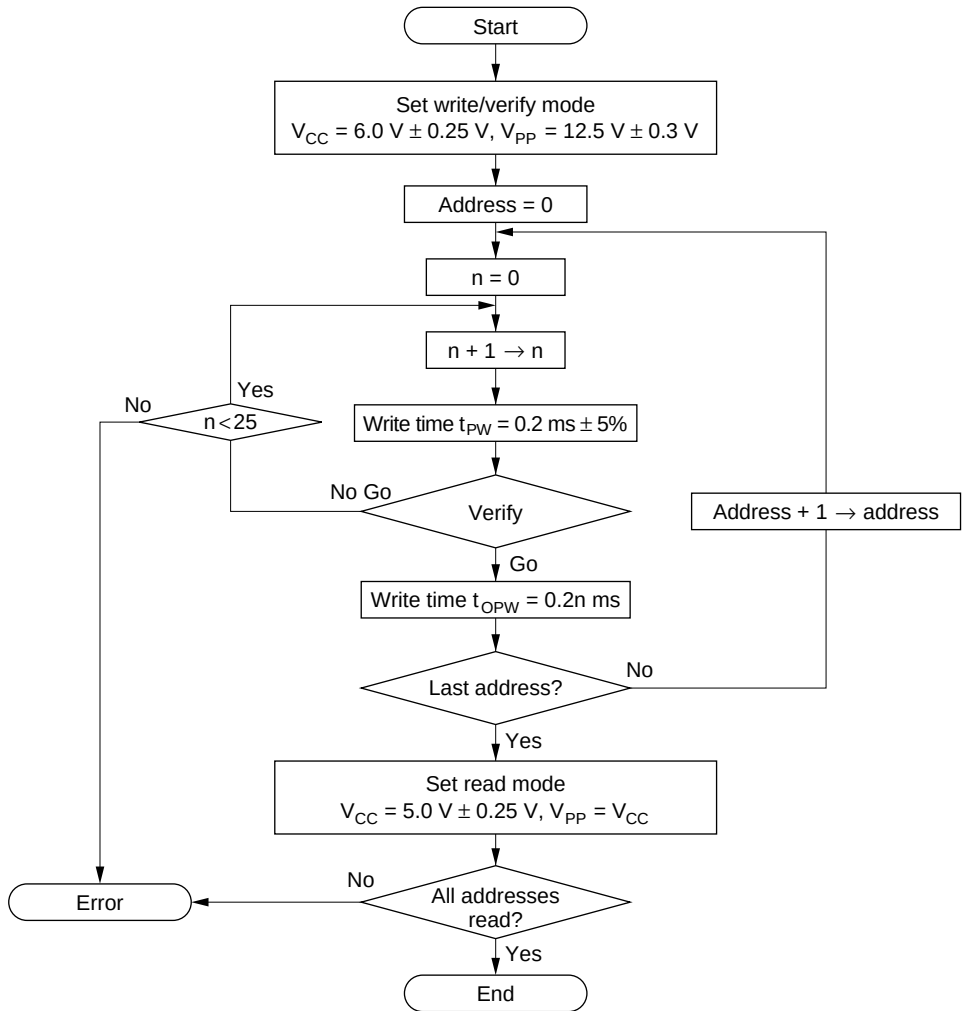

Figure 6-4 High-Speed, High-Reliability Programming Flow Chart
An efficient, high-speed, high-reliability method is available for writing and verifying the PROM data. This method achieves high speed without voltage stress on the device and without lowering the reliability of written data. The basic flow of this high-speed, high-reliability programming method is shown in figure 6-4.
- t_{OPW} is defined by the value given in figure 6-4 high-speed, high-reliability programming flow chart.